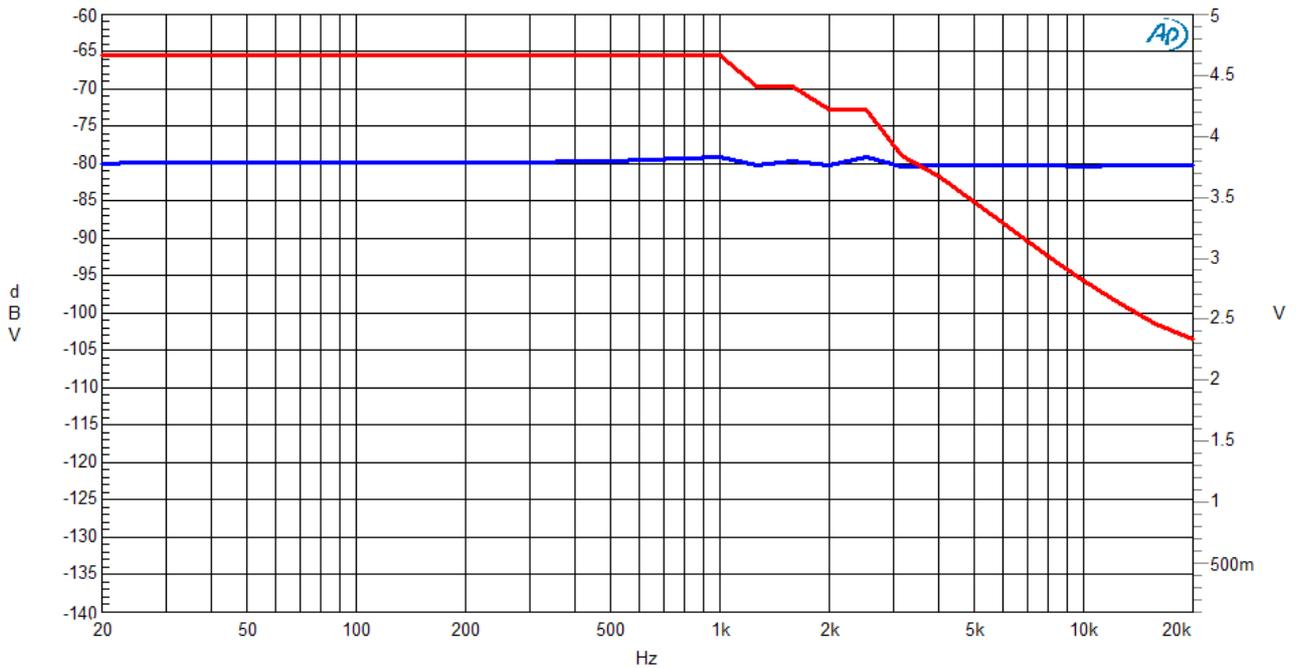

Fig.9 Max. input level vs frequency for 0.01% THD+N
5. Dynamic range This can be calculated as the difference between a specified input level and the broadband noise level. The maximum input level for distortion free reproduction is given in fig. 9 as 2.1V over the entire audio band. This represents a dynamic range at any frequency in the audio band of over 110dB. At up to 3kHz the dynamic range is over 115dB.
7. Maximum input signal level versus frequency for less than 0.01% THD. With this test, the 0.01% THD+N is used as reference. At each frequency point, the input level is increased until THD+N reaches 0.01%. Results are shown in figure 9, with the blue curve showing the 0.01% reference line, left Y-axis, and the red curve showing the max. level at each frequency with the right Y-axis.